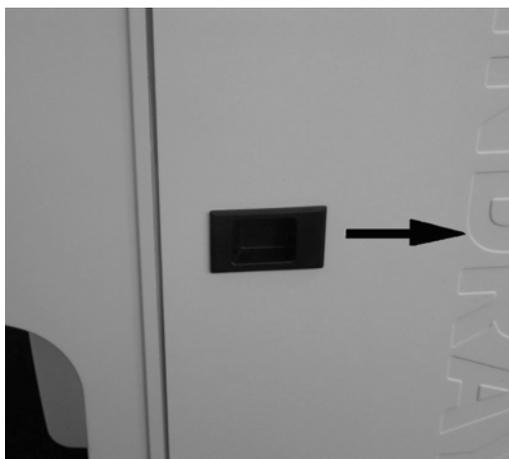

Figure10-49
1. Push the right door latch in the direction indicated in Figure10-49;